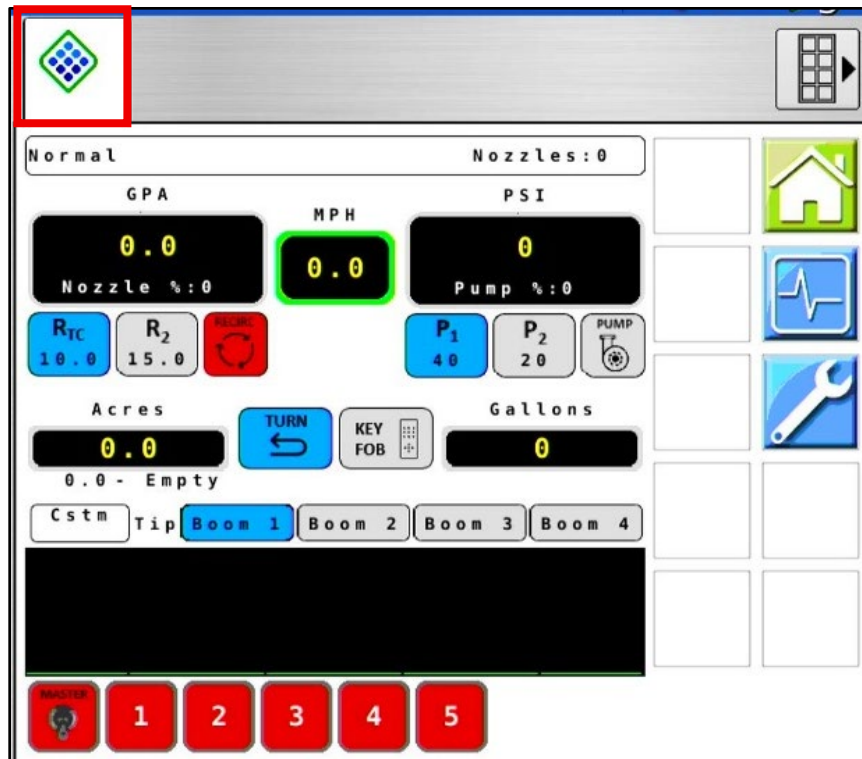

Figure 1 — PinPoint III Home Screen
1. **Figure 1:** Select the CapstanAG PinPoint™ III icon  from the UT selection list. This icon may be located in slightly different places depending on the task controller.